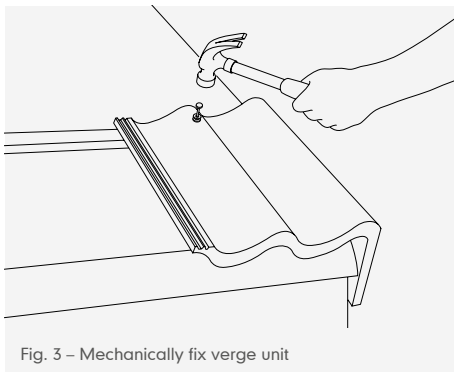

Fig. 3 – Mechanically fix verge unit
- 8 Drive aluminium nail with spacer unit assembly (Fig. 3).